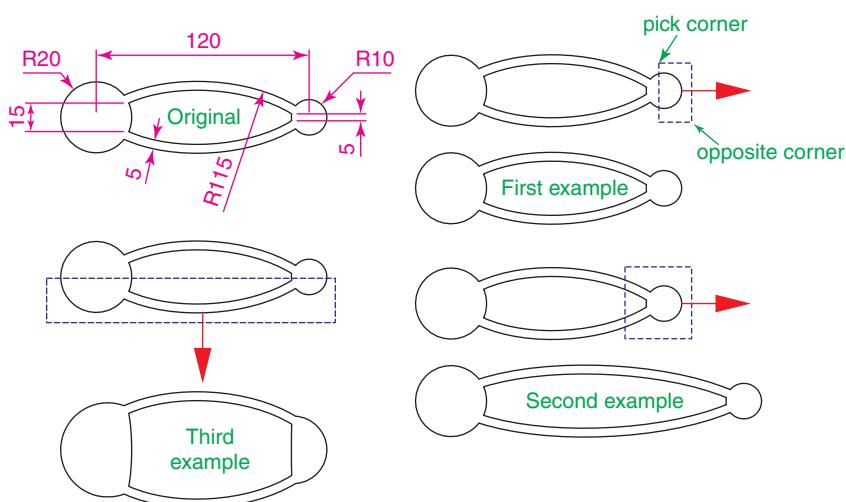

Fig. 5.34 Examples – Stretch
Examples – Stretch (Fig. 5.34)
1. Construct the drawing labelled **Original** in Fig. 5.34, but do not include the dimensions. Use the **Circle**, **Arc**, **Trim** and **Edit Polyline** tools. The resulting outlines are plines of width = 1. With the **Copy** tool make two copies of the drawing.
In each of the three examples in Fig. 5.34, the broken lines represent the crossing windows required when **Stretch** is used.